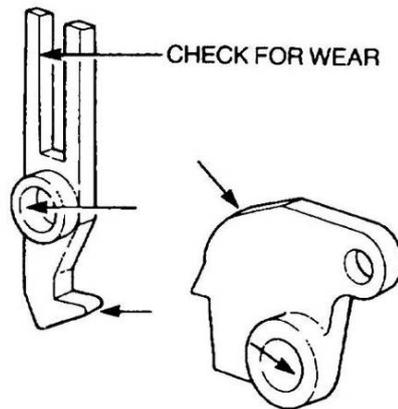

Figure 106 Sensor Lever and Torque Cam Wear Points
- g.** Check the sensor lever and the torque cam for wear at the points shown (Figure 106). Replace either or both if excessive wear is evident.